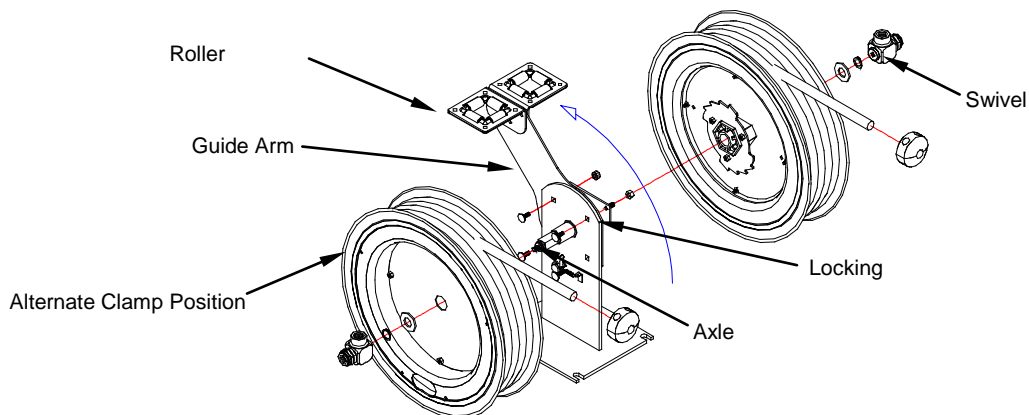

Figure 2
7. Rotate the guide arm 90° as shown in Figure 2. Guide arm may have to be removed from the axle.
11. Relocate hose clamps, inside the drums, to the alternate clamp positions (see Figure 2). This is to prevent lock-out.